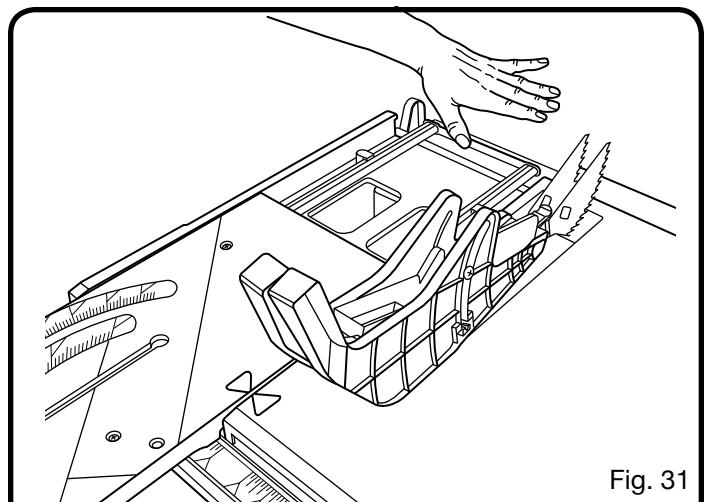

Fig. 31
**NOTE:** When moving the miter base, keep hands and fingers out of areas where they may be pinched. Pull the miter base into position with fingers extended and using only your thumb as shown in figure 31.